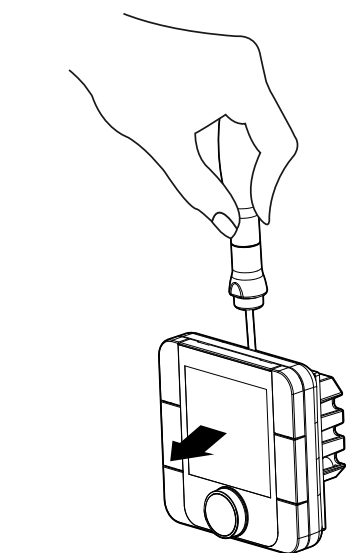

Fig. 1
1. 用螺丝刀拆下设备前面部分（Fig.1）
如图1所示将螺丝刀插入设备顶部，向下按压以分离显示板
1. detach the front from the rear of the terminal using a screwdriver (Fig. 1);
Insert a screwdriver into the slot at the top (Fig. 1) and press downwards to detach the display.